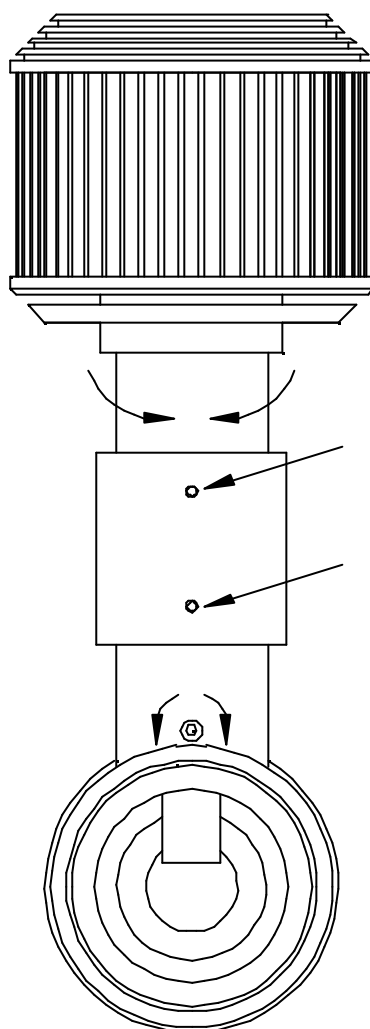

Figure 13 Adjusting the lamphouse
2. If the light patch needs to be moved left or right, loosen the grub screws which secure the lamphouse barrel in the mounting block using the 1.5 mm socket key provided. Rotate the barrel until the light patch is centred, then secure the grub screws once again. Refer to figure 13.
3. If the light patch needs to be moved up or down, adjust the single screw located on the front of the lamphouse barrel, located between the mounting block and the microscope. Rotate the screw clockwise (“in”) to move the light patch down, or anti-clockwise (“out”) to move the light patch up. Refer to figure 13.